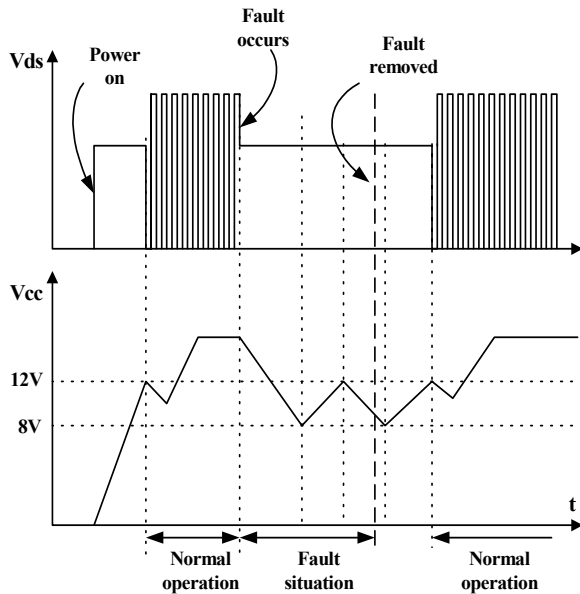

Figure 6. Auto restart operation
3. Protection Circuit : The FSDM07652R has several self protective functions such as over load protection (OLP), abnormal over current protection (AOCP), over voltage protection (OVP) and thermal shutdown (TSD). Because these protection circuits are fully integrated into the IC without external components, the reliability can be improved without increasing cost. Once the fault condition occurs, switching is terminated and the Sense FET remains off. This causes Vcc to fall. When Vcc reaches the UVLO stop voltage, 8V, the protection is reset and the internal high voltage current source charges the Vcc capacitor via the Vstr pin. When Vcc reaches the UVLO start voltage, 12V, the FPS resumes its normal operation. In this manner, the auto-restart can alternately enable and disable the switching of the power Sense FET until the fault condition is eliminated (see figure 6).